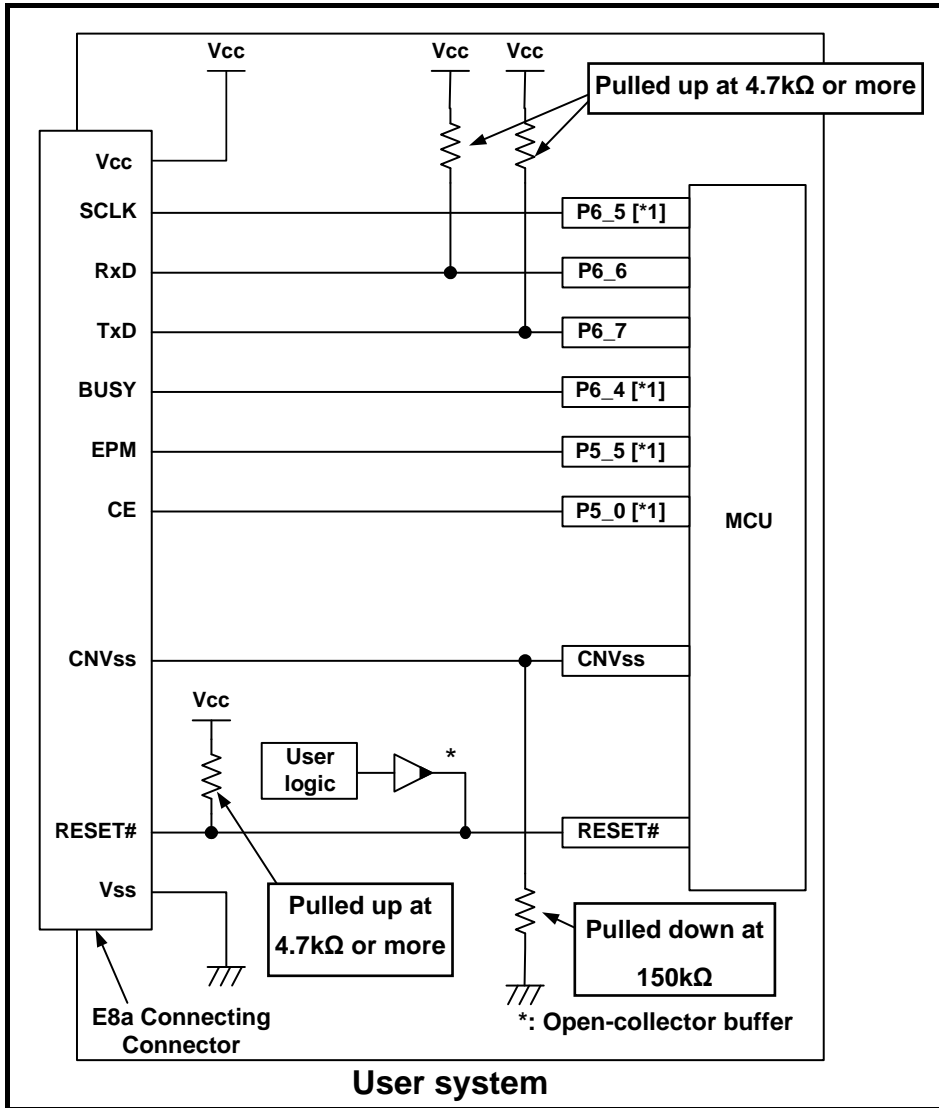

Figure 4.4 Example of an E8a Connection (Single Power Supply)
- Single power supply: See Figure 4.4.